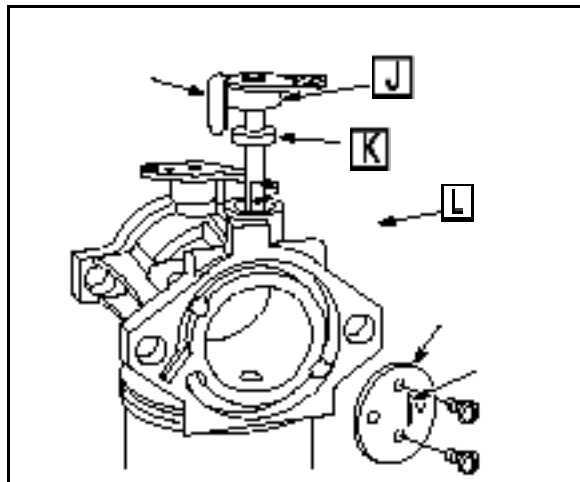

Fig. 143
8. Install small foam washer (J) to throttle shaft (K).
10. Turn throttle shaft until flat ([L] Fig. 143) is facing out.